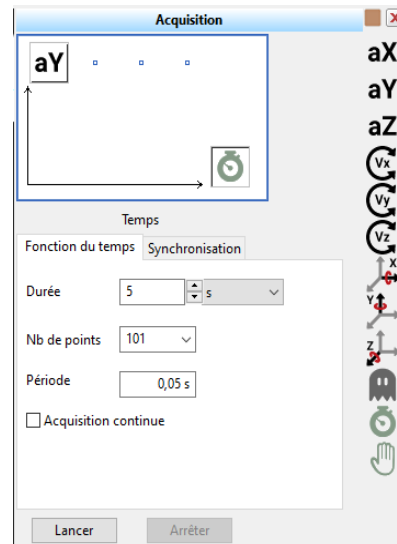

Figure 9 : Time configuration
- Define time configuration by clicking on . For this experiment, the time is set up to 5 seconds and 101 points (figure 9).